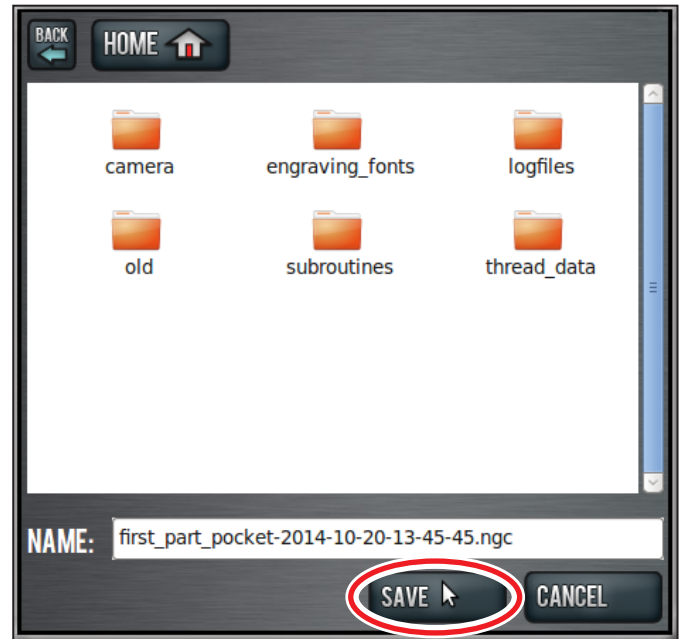
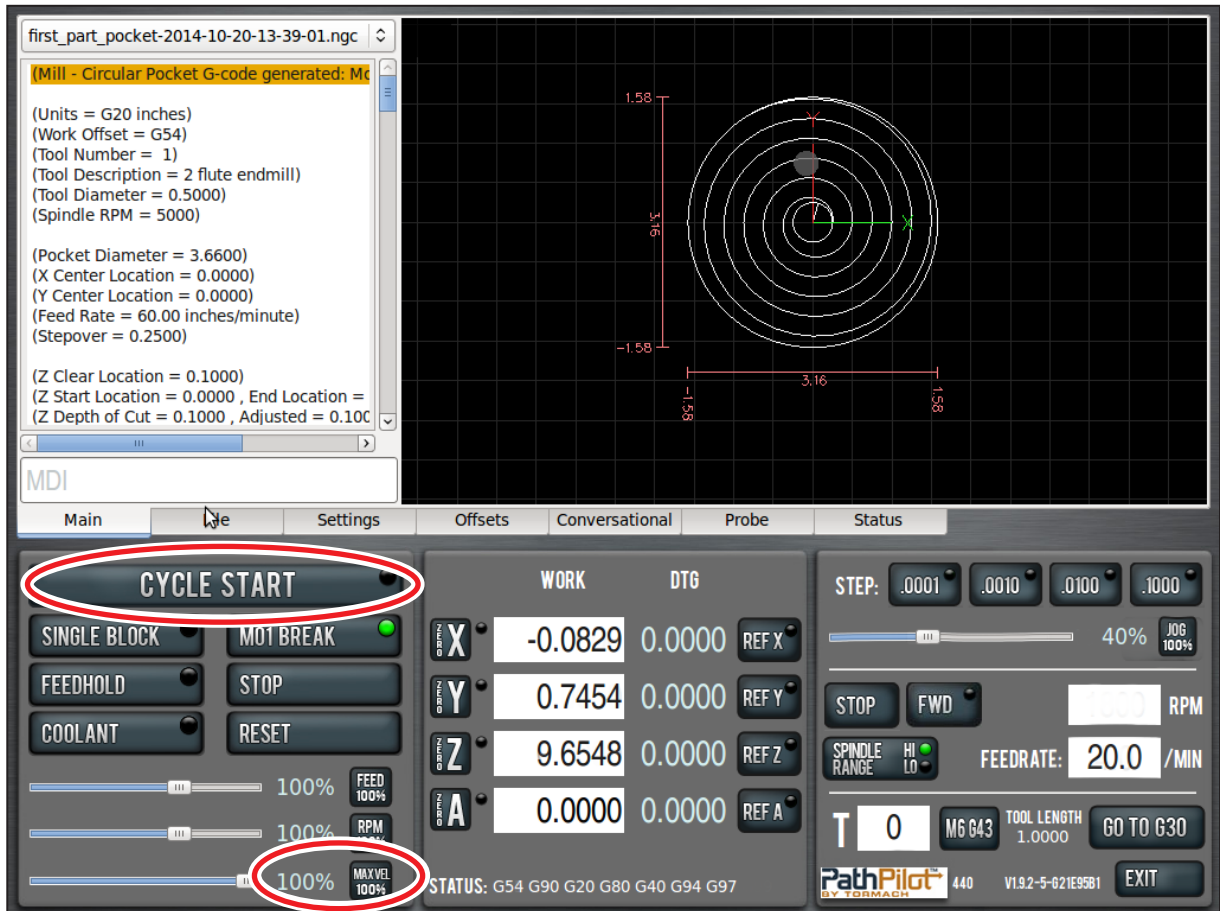

Figure 5.11
Figure 5.12
- Units are expressed according to the current G20/21 setting. If you are in G21 (metric), the feed rates will be in mm/min and the coordinates in mm. For the purposes of this tutorial, use imperial units (G20). You can check the current G20/21 setting by inspecting the string of active G-codes next to the word *Status* at the bottom middle of the screen (see **Figure 5.12**).
- When you click *Save* (see **Figure 5.11**), it also automatically loads into the control and displays the tool path (see **Figure 5.12**).
1. Grab the *Maxvel* slider (lower left hand corner of screen) by clicking and dragging it down to zero (see **Figure 5.12**).
2. Click *Cycle Start* button (see **Figure 5.12**). If the current tool is not *Tool 1* and you have configured the mill for manual tool changes, the *Cycle Start* button LED may blink requesting a tool change. Change the tool and confirm by clicking the *Cycle Start* button again. If equipped with an ATC, tool changes happen automatically without operator interaction.
3. Grab *Maxvel* slider again and slowly increase allowed velocity (see **Figure 5.12**). Bring velocity back down to zero when you get close to the part and double check values in the DROs to make sure that tool position looks correct. For example, if tool is 1/4" above the workpiece, Z DRO should read 0.2500. If everything looks correct, move *Maxvel* slider back up to resume part program.